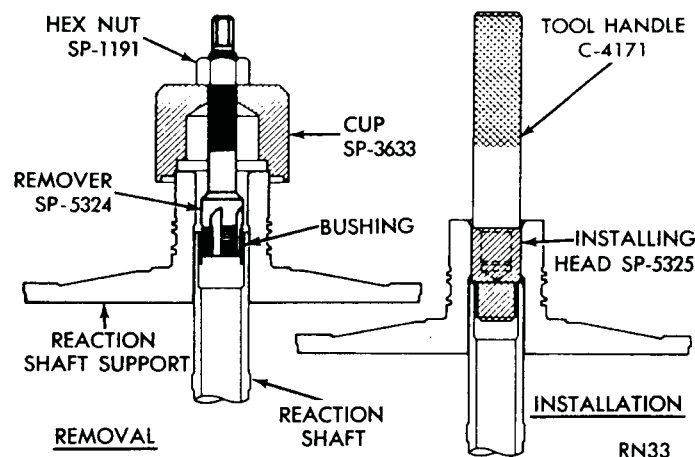

Fig. 12—Replacing Reaction Shaft Bushing (A-904T and A-999)
(1) Assemble the remover Tool SP-5324, cup Tool SP-3633, and hex-nut Tool SP-1191 (Fig. 12).
(4) Turn hex nut down against cup to pull bushing from reaction shaft. Thoroughly clean reaction shaft to remove chips made by remover threads.
(5) Lightly grip bushing in a vise or with pliers and back tool out of the bushing. Be careful not to damage threads on bushing remover.
(6) Slide a new bushing on installing head Tool SP-5325, and start them in the bore of reaction shaft (Fig. 12).
(7) Support reaction shaft upright on a clean, smooth surface and install handle C-4171 in installing head. Drive bushing into the shaft until tool bottoms.
(8) Thoroughly clean reaction shaft support assembly before installation.